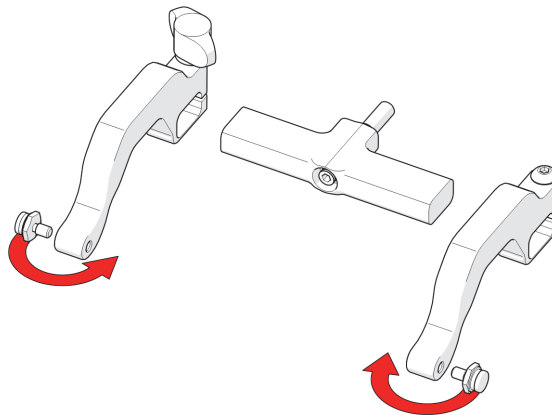

Figure 2-114 Position pivot buttons
5. Position the pivot buttons to the inside of the probe holder arms (see Figure 2-114 on page 120).